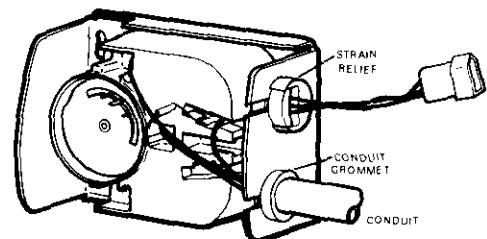

Figure 33 (4-048)
- Remove fan/limit control, 3/4"-strain relief bushing. Remove conduit and then conduit grommet from original fan/limit control knockout. See Figure 33.